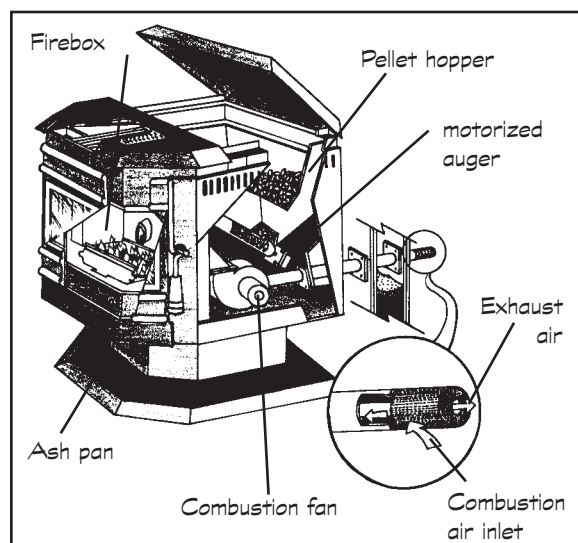

Figure 4
**Pellet stoves.** Some EPA certified stoves burn fuel pellets manufactured from wood or other biomass. With a pellet stove (Figure 4), you load batches of fuel into a hopper. A motorized auger, controlled by a dial or thermostat, then moves the pellets into the stove as needed. A small fan controls air-flow in the combustion process.